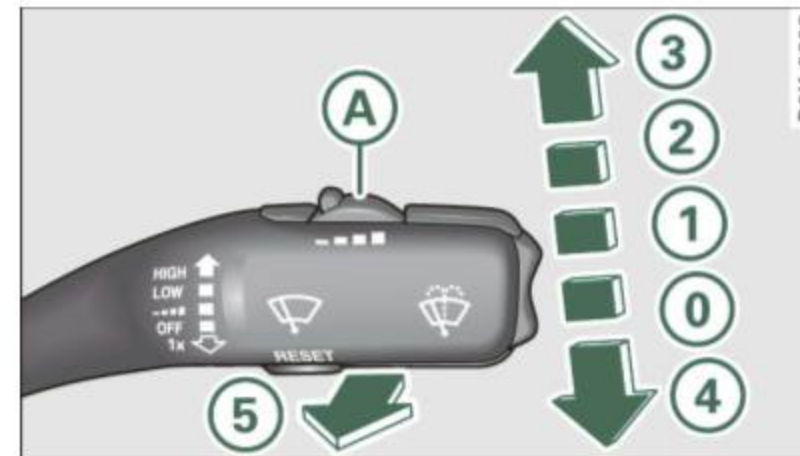

Fig. 61 Windshield
- If the wiper blades are not frozen to the windshield, bring the windshield wiper lever to the basic position ① ⇒ page 65, fig. 61.